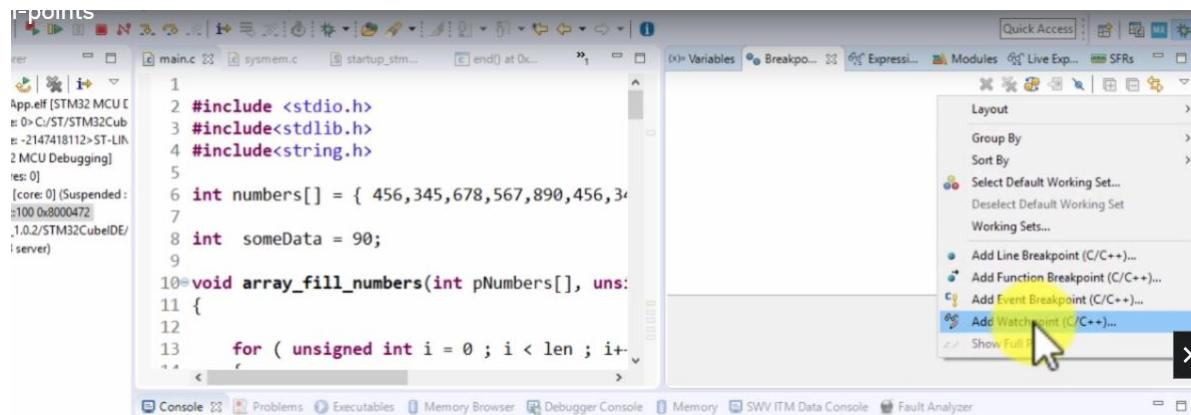

Figure 5.13: Adding Watchpoints
- Click on Add Watchpoints as shown in Figure 5.13.